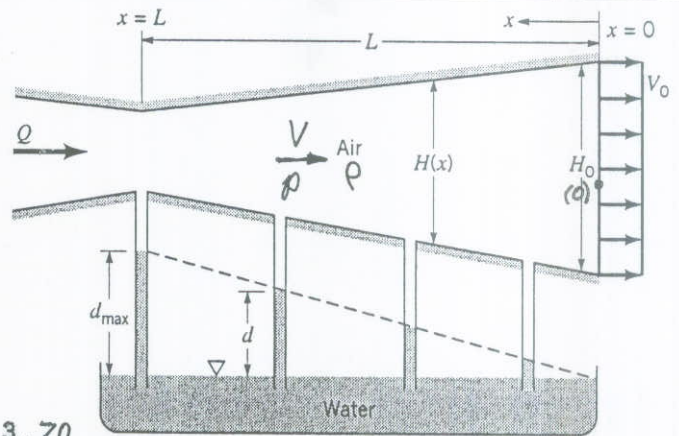

FIGURE P3.70
3.70 Air flows steadily through a converging-diverging rectangular channel of constant width as shown in Fig. P3.70 and Video V3.10. The height of the channel at the exit and the exit velocity are  $H_0$  and  $V_0$ , respectively. The channel is to be shaped so that the distance,  $d$ , that water is drawn up into tubes attached to static pressure taps along the channel wall is linear with distance along the channel. That is,  $d = (d_{max}/L)x$ , where  $L$  is the channel length and  $d_{max}$  is the maximum water depth (at the minimum channel height;  $x = L$ ). Determine the height,  $H(x)$ , as a function of  $x$  and the other important parameters.